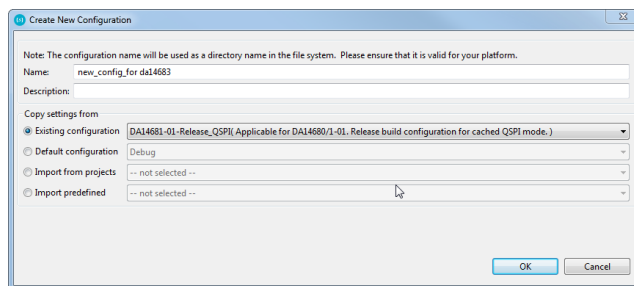

Figure 3: Select configuration base
2. Create a new configuration with the name of your choice and copy the settings from your preferred current configuration (Figure 3).